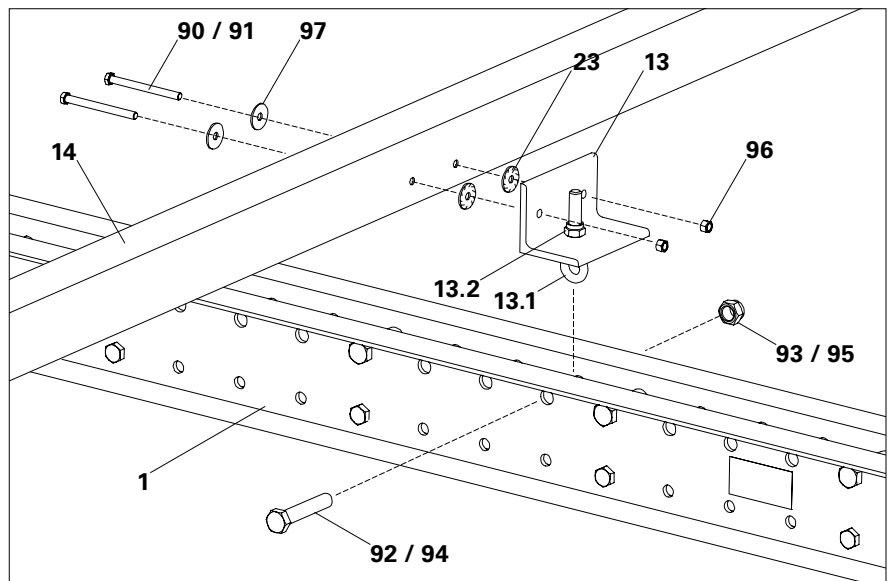

Fig. C3.01
4. Tighten the nut on the eyebolt. (Fig. C3.01 + C3.02)
3. If statically required: hammer in Plate Connectors (23) congruently into the holes of the Enclosure Beam, on the side of the Timber Fixation. Secure Plate Connectors with wire nails. (Fig. C3.01)
4. Depending on the clamping length (timber height), insert bolts M12 x 140 (90) or M12 x 240 (91) through the holes of the Timber Fixation and Enclosure Beam. Secure bolt with washer (97) and nut (96). (Fig. C3.01)